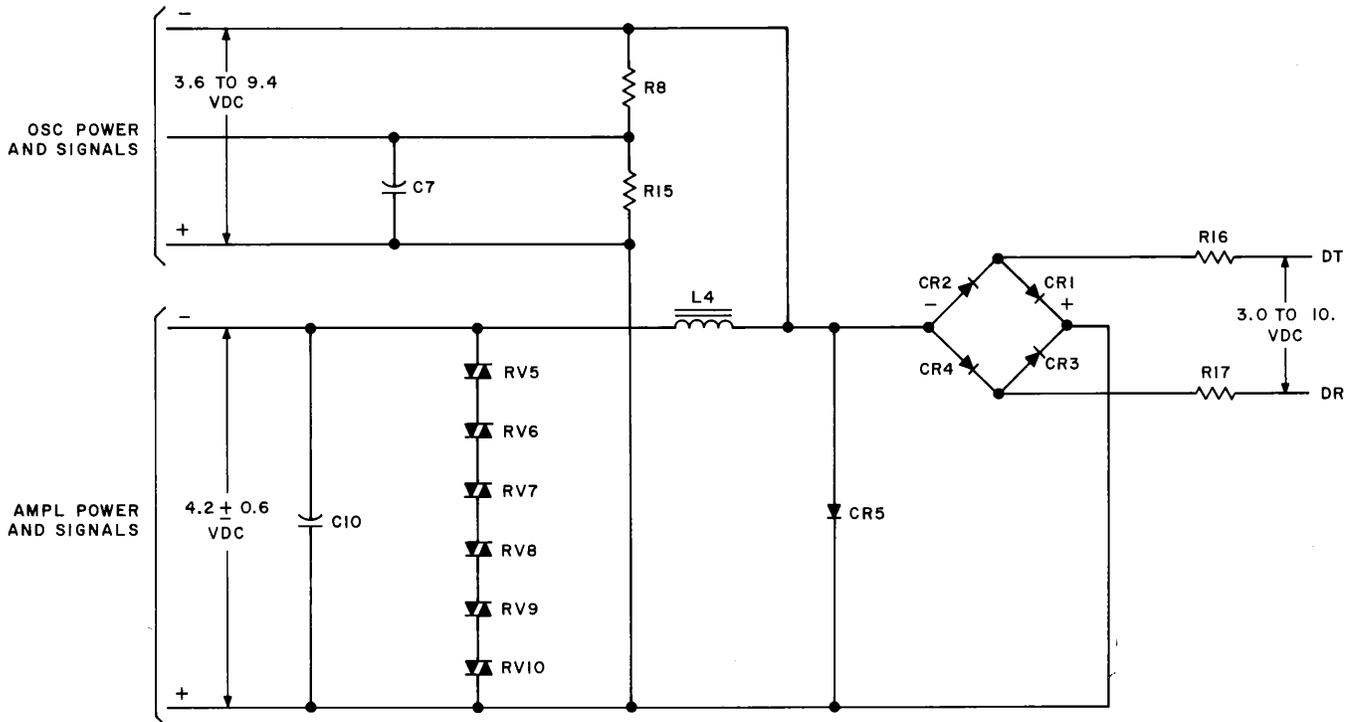

Fig. 5—Simplified Schematic of Polarity Guard and Power Circuit
**3.04 Polarity Guard and Power Supply:** Refer to Fig. 5 for a simplified schematic of the polarity guard and power supply circuit. Power for the data transmitter is to be derived from the central office battery via the subscriber line. Diodes CR1 through CR4 comprise a full bridge rectifier that functions as a polarity guard. The polarity guard ensures the correct voltage polarity to the data set independent of the line voltage polarity. The voltage potential across this bridge is between 3 and 10 volts, depending upon the subscriber loop resistance. Surge current protection is provided by zener diode CR5 which breaks down at approximately 18 volts. Resistors R16 and R17 limit surge current to protect CR5. Resistors R8